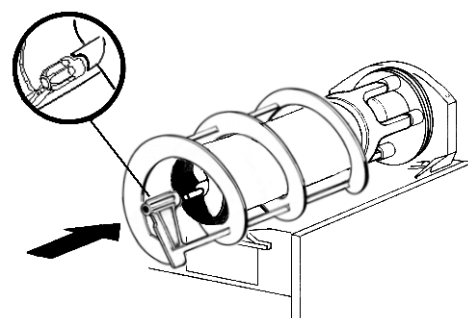

figure 17
- 6 - Install the outer spiral. Slide it over the evaporator until its front notch engages with the exposed end of the auger shaft (see figure 17).